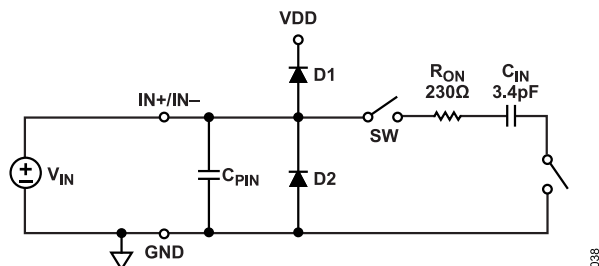

Figure 38. Equivalent Analog Input Circuit
Figure 38 shows an equivalent circuit for each of the AD4052 analog inputs (IN+ and IN−). The analog inputs are modeled as a switched capacitive load. During the acquisition phase, the sampling switch (SW) connects each input pin to the 3.4 pF sampling capacitor (C_{IN}), in series with the 230 Ω switch on resistance (R_{ON}). During the conversion phase, SW disconnects to sample the voltages on the IN+ and IN− pins onto the sampling capacitors. D1 and D2 represent the ESD diodes from the IN+ and IN− pins to the VDD supply and GND, respectively. C_{PIN} represents the pin capacitance of each input pin to GND and is typically 2 pF.